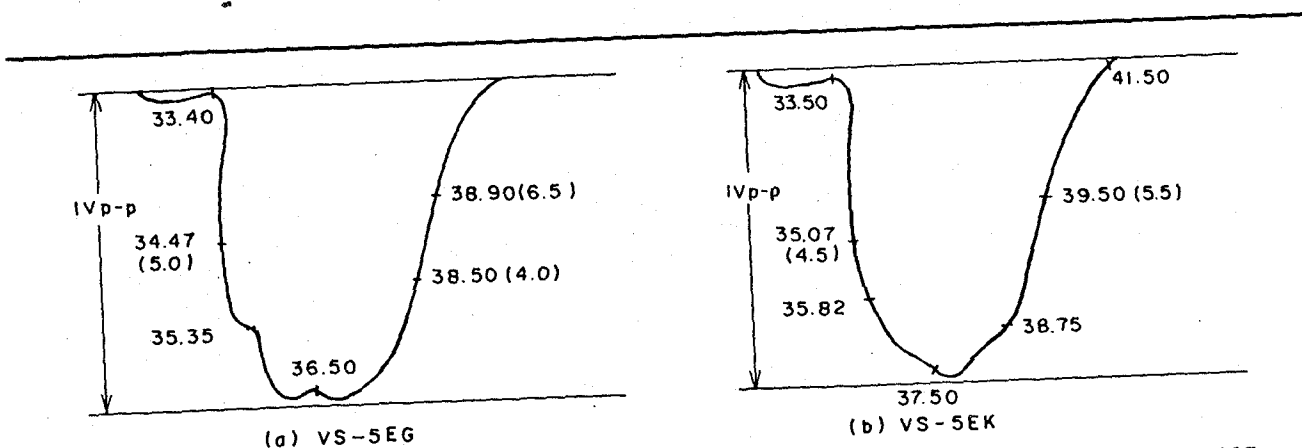

Fig. 137
- 1) Apply VIF sweeper output 70 dB to TP4 (IF).
- 4) Set the alignment scope to 10th graduation by means of the IF AGC volume and adjust the marker position as shown in Fig. 137 (a) and (b).